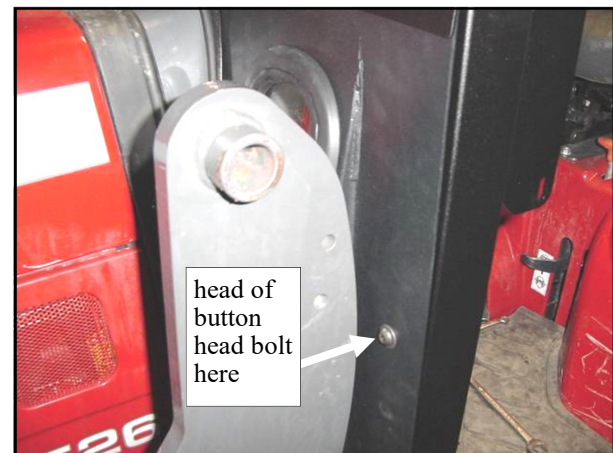

Fig. 4.5 (view from front left side of tractor)
4.5 Per fig. 4.5, attach the left front leg to the side frame with the following hardware: two 5/16" x 1" long button head bolts, two plastic washers, four steel washers, and two locknuts. Do not tighten bolts.